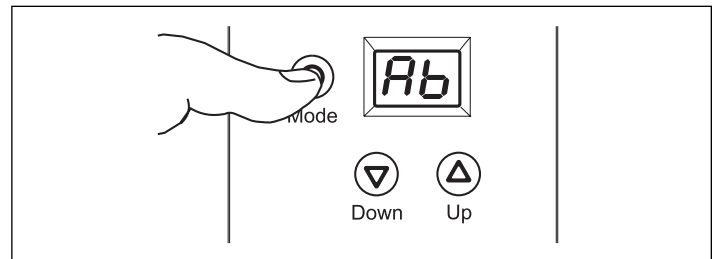

Figure 11
1. Unlock the keyboard. Press the Mode button until reaching the manual menu identified as Ab (Figure 11).